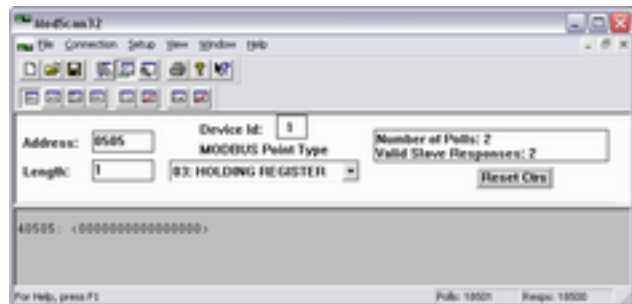

Fig. 273: ModScan32 single bit view
1. Using the "display options" set the format to binary to view single bits (Fig. 273).